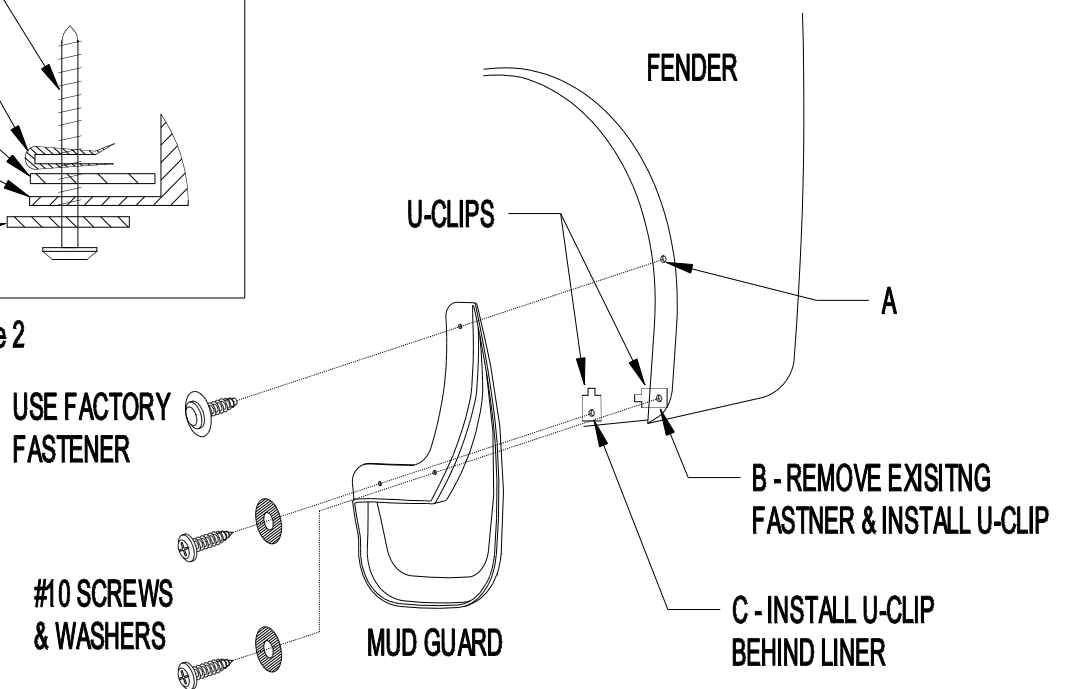

Figure 1
2. Remove existing fastener from location A and plastic fastener from location B (Figure 1).
3. Install mud guard to rear fender with existing fastener at location A (Figure 1). Check fit and parallel and adjust accordingly before tightening.